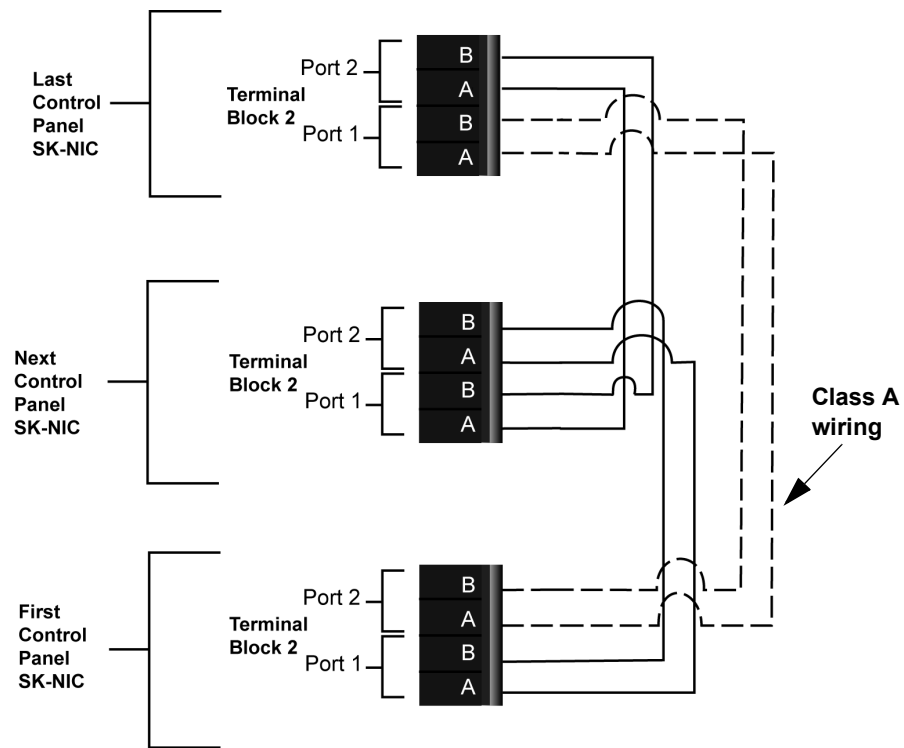

Figure 5.7 Twisted Pair Wiring Configuration
5. Based on the type of data medium chosen, run the twisted pair wiring/fiber optic cable to the next SK-NIC using a class B or class A wiring method. A combination of both medium types can be used. See Figure 5.7, Figure 5.8, Figure 5.9, and Figure 5.10 for SK-NIC wiring examples.
Unshielded twisted pair wiring between multiple panels is shown in Figure 5.7. Class A wiring is shown with a dotted line.